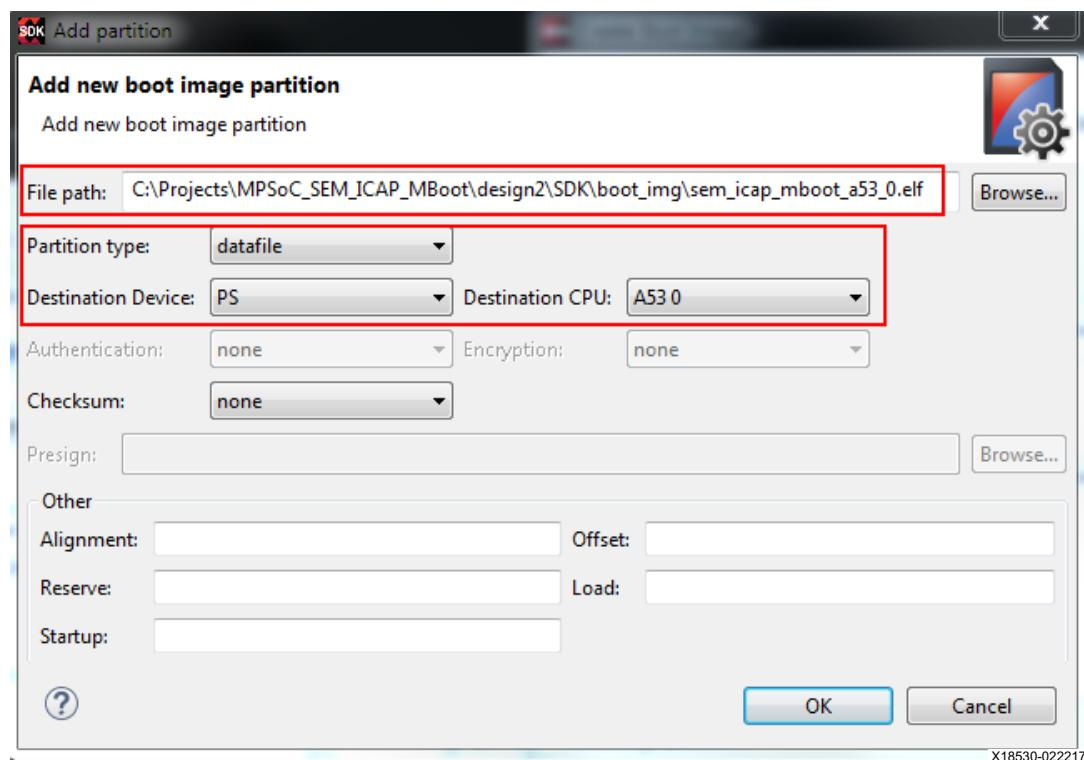

Figure 30: Design 2 - SEM ICAP MultiBoot Partition
- b. Verify the Partition type is **datafile**, the Destination Device is **PS**, and the Destination CPU is **A53 0**. See Figure 30.